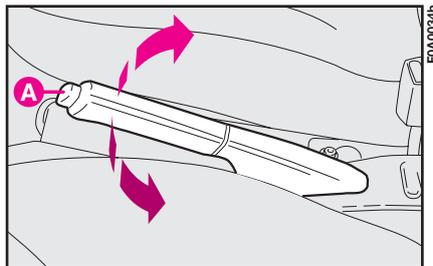

fig. 1
- 1) Slightly lift the handbrake and press release button **A-fig. 1**.